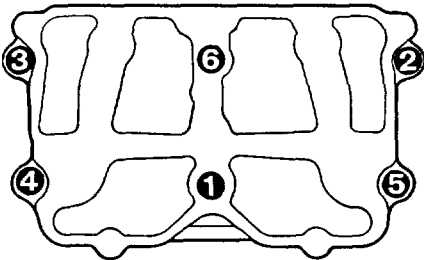

Fig. 3
3. Install the housing hold-down nuts. Tighten the nuts to 60 lbft. (80 N·m), following the sequence shown in Fig. 3.